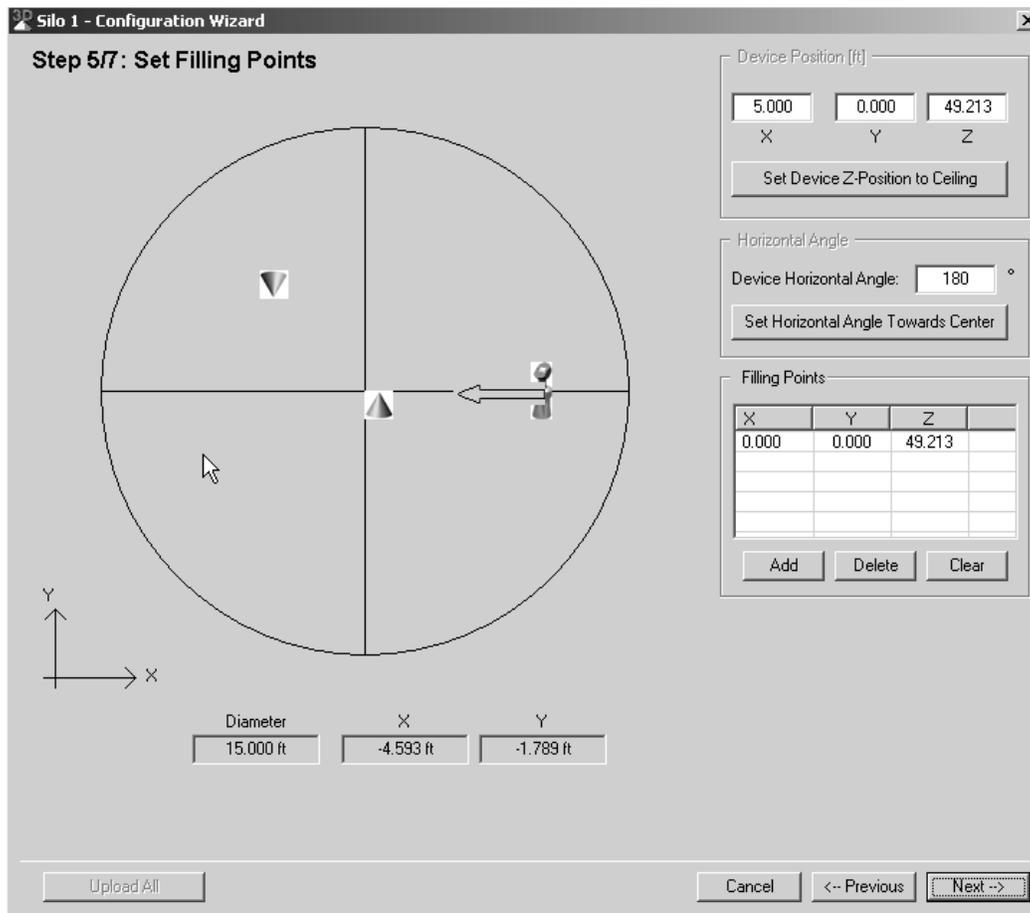

Figure 44 Configuration Wizard – Step 5/7: Set Filling Points
Step 5/7 (Figure 44) configures the filling input points to the vessel. You can set more than one filling point.